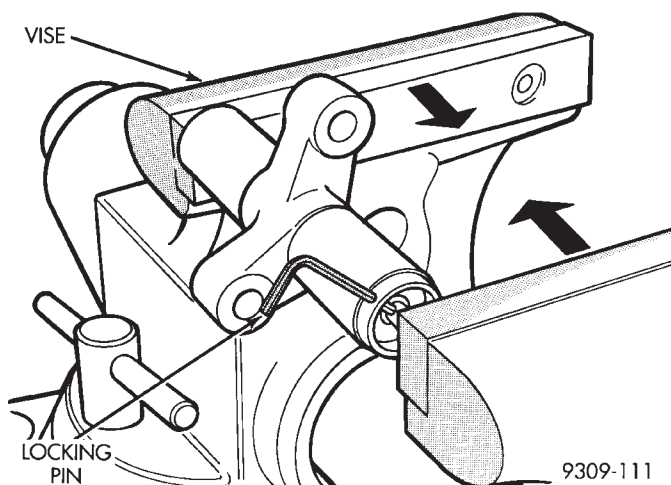

Fig. 5 Compressing Timing Belt Tensioner
(1) When tensioner is removed from the engine it is necessary to compress the plunger into the tensioner body.
(2) Place the tensioner into a vise and slowly compress the plunger (Fig. 5).